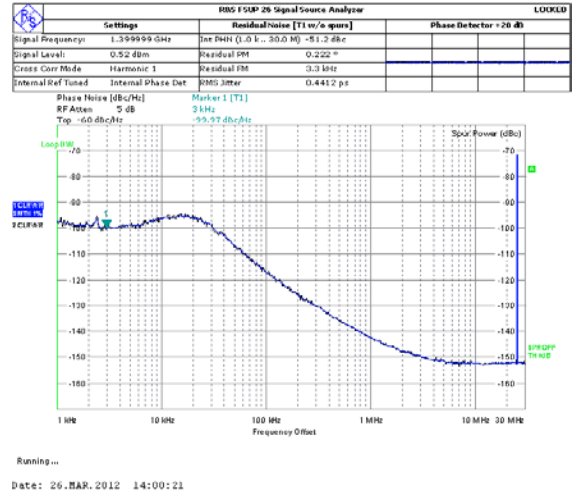
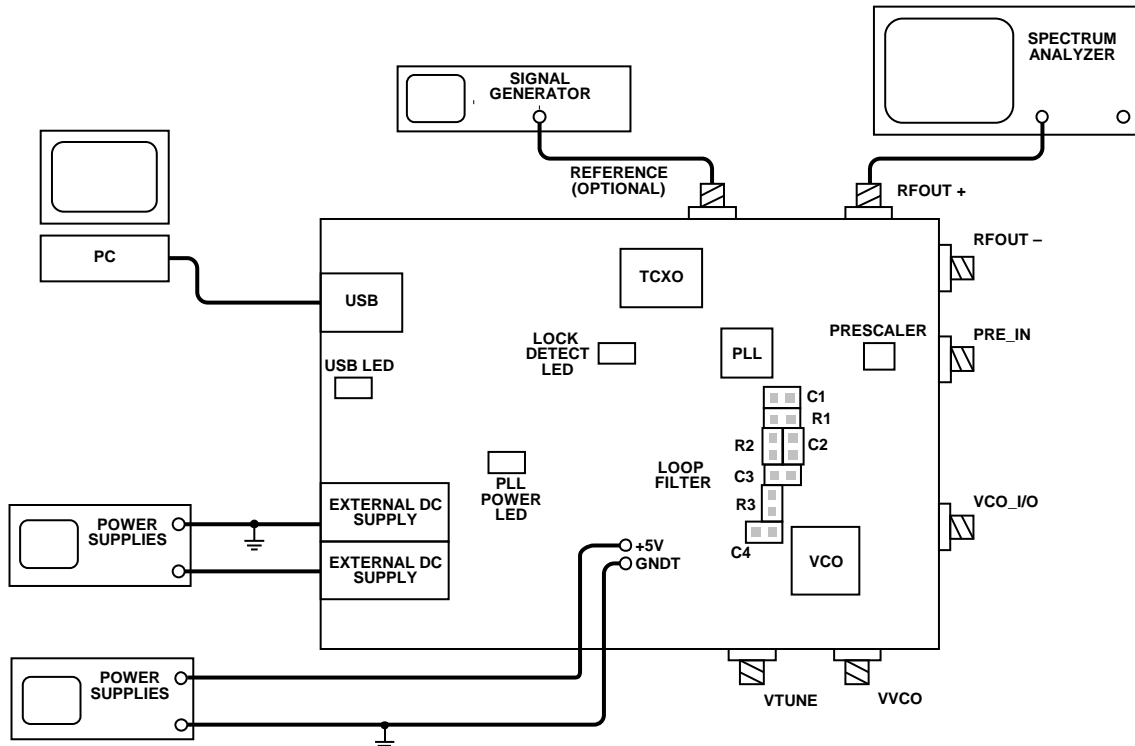

Figure 7. Signal Source Analyzer Display
Figure 8. Typical Evaluation Setup
- The test point labeled +5V must be supplied with 5 V, as shown in Figure 8. This powers high precision, low noise ADP150AUJZ-3.3 linear regulators to provide 3.3 V to V_{DD} on the board (which supplies the ADF4150HV AV_{DD} , DV_{DD} , and SDV_{DD} pins), to V_{OUT} (which supplies the ADF4150HV RF outputs pull-up), and to the ADL5541 buffer, which improves phase frequency detector (PFD) spur levels at the VCO output.
7. In the software window, set the RF frequency (Figure 7 shows a screenshot of the signal source analyzer operating in phase noise mode, taken at a frequency of 1.4 GHz). Set the PFD frequency as defined in ADIsimPLL, and program the reference frequency to 25 MHz if the on-board TCXO is used or to the frequency that has been supplied to the REFIN connector. See Figure 8 for the suggested setup.
8. Measure the output spectrum. Figure 7 shows a 1.4 GHz output.